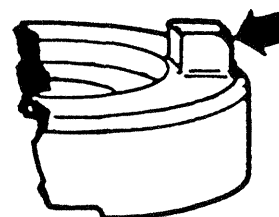

Figure 716. Worn Drive Lug
(3) Inspect drive lugs of body (9). If wear is noted, measure difference between worn and unworn areas of drive lug surface. If difference is in excess of 0.015 in., reject body (9). See Figure 716.